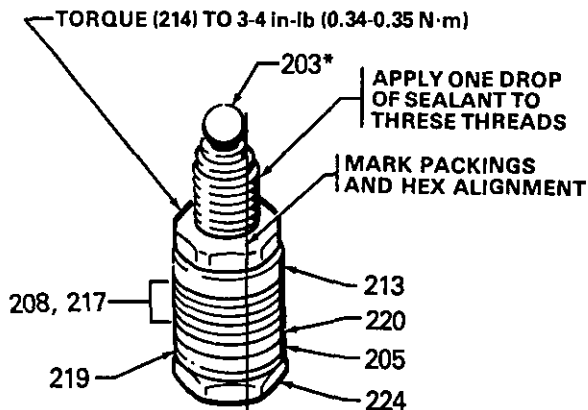
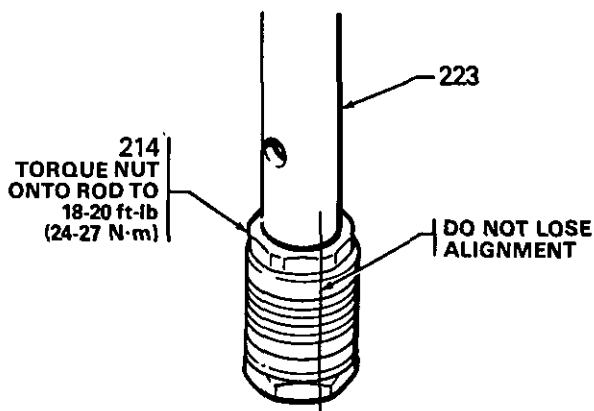

Fig 12
Fig 13
1. Check the outside of the piston rod (223) and the inside of the cylinder (216) for scoring or scratches. If the parts are damaged, new packings will not seal properly. Replace these parts if needed.
2. Stack the backup washer (219\*), wiper (205\*), female gland (220\*), packings (217\*, 208\*) and male gland (213\*) onto the piston valve (224). See Fig 12.
3. Tighten the retaining nut (214) onto the piston valve (224) and torque to 3-4 in-lb (0.34-0.35 N·m).
4. Make a light pen mark on the packings where they align with one flat on the nut. See Fig 13.
5. Place the ball (203) on the piston valve (224). See Fig 12. Apply *one drop* of thread locking compound, supplied with repair kit, on threads of the piston valve. Then hand tighten the valve assembly into the piston rod just until the nut (214) meets the face of the rod. See Fig 13.